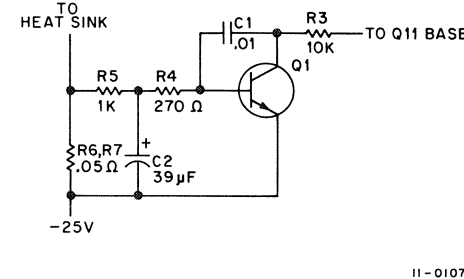

Figure 2-12 -15V Overcurrent Circuit
2.4.2.3 Overcurrent Protection — The overcurrent-sensing circuit (see Figure 2-12) for the -15V regulator monitors the amplitude of the current pulses being drawn by the -15V load and shuts off the series-switching transistor if the current becomes too high. This is accomplished by sensing the voltage drop across resistors R6 and R7. When this drop becomes too high, transistor Q1 is forward-biased and pulls the base of transistor Q11 negative through resistor